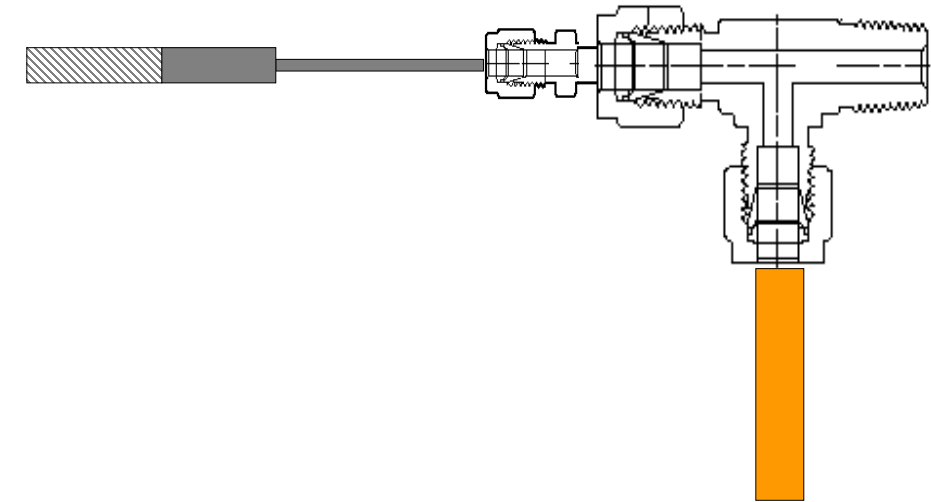

Figure 6: Tee-fitting with thermocouple and copper tubing installed
4. Insert one end of the copper tubing into the fitting on the Tee that is at a 90° angle to the boss. Tighten the fitting on the Tee until it is finger tight. Then tighten it 1-1/4 turns with a 9/16" wrench (Figure 6).